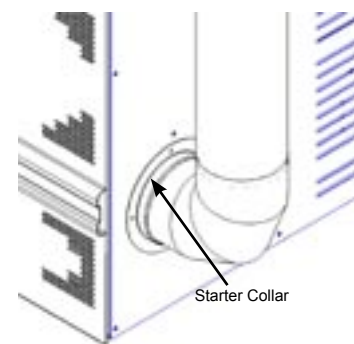

Figure 11
2. Connect a Starter Collar to the back of the Room Heater using three screws. See Figure 11.
3. Insert an Elbow through the Starter Collar, into the back of the Room Heater. Align and push together until snapped into locked position. See Figure 11.